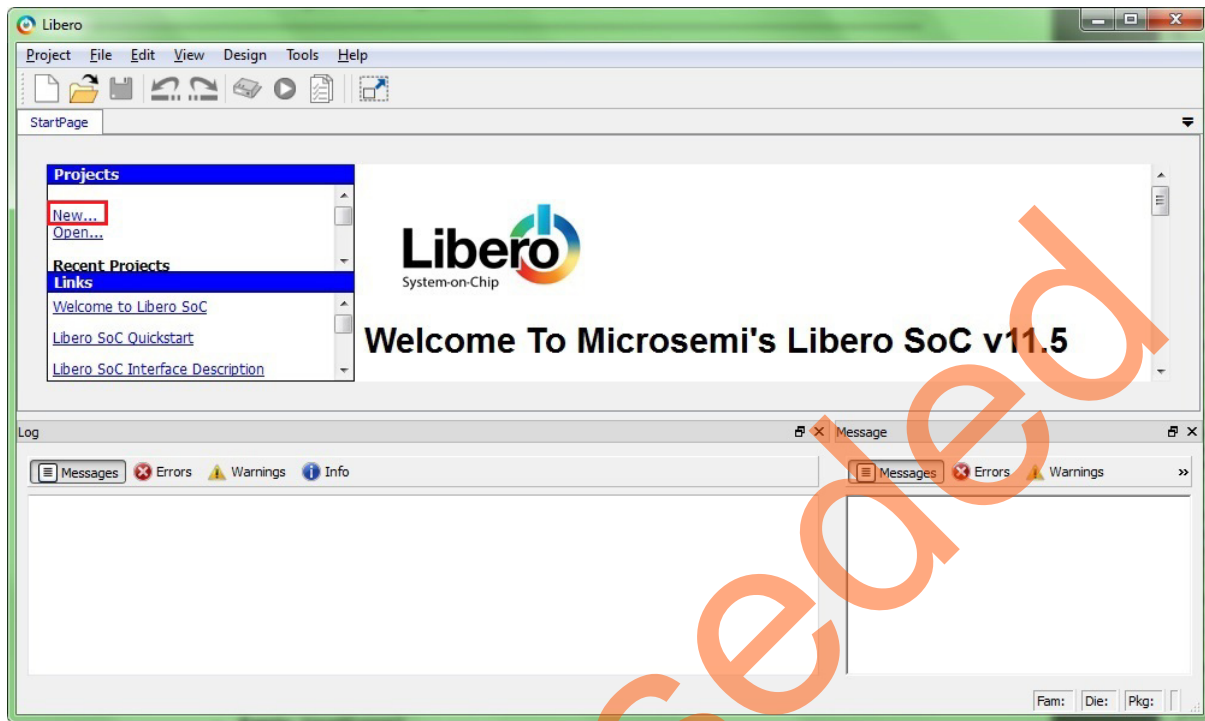

Figure 3 • Libero SoC Project Manager
- Select **New** on the **Start Page** tab as shown in Figure 3.